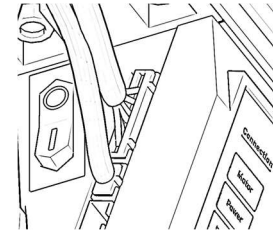

Figure 48: Power switch.
1. Ensure the red power switch (Figure 48) on the side of the control panel is set to off (O down).